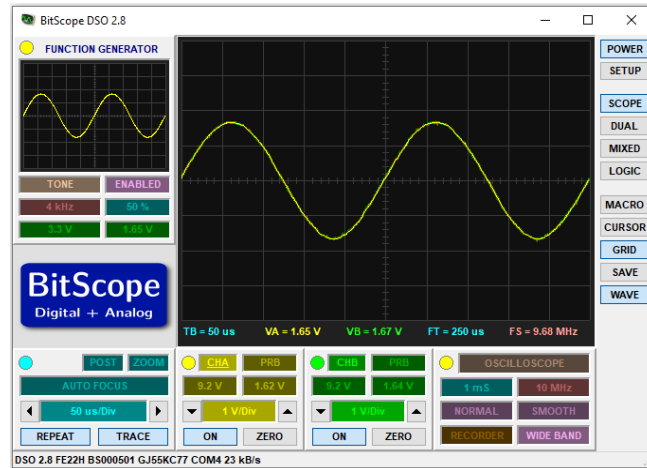

Figure 7. Indiscernible CHA (yellow) and CHB (green) waveforms.
- Click the WAVE button, which is the last button on the right hand side of the DSO panel, to generate the default sine wave (Tone). A sine wave now appears on the smaller display, as shown in Figure 7. All its parameters below the display are adjustable. Note: the voltage parameter is the peak- to-peak voltage, not the amplitude.
- e. As only CHA is turned on by default, you should see a yellow sine wave only in the main display. Proceed to turn on CHB by clicking ON button at the CHB channel control panel located below the main display. Once enabled, the CHB green sine wave appears and superimposes on CHA yellow sine wave, as shown in Figure 7.